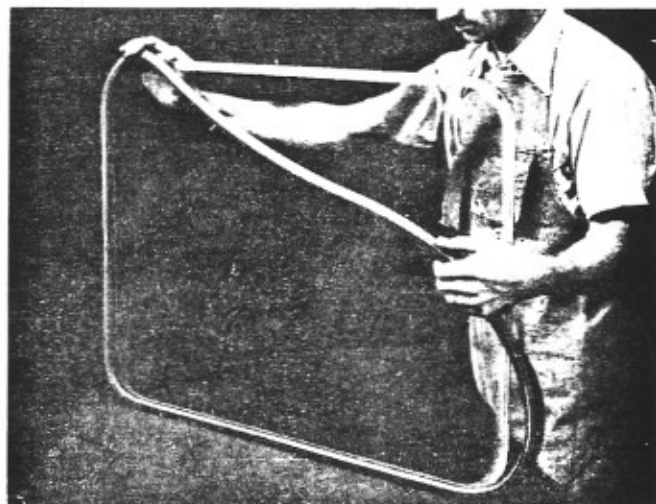

Figure 135
7. Remove rubber from glass but do not remove breather from rubber. (See Figure 135)